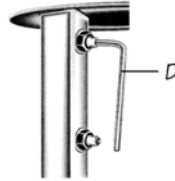

fig. 2
- Separate the lower frame "TI" from the upper part "TS" by loosening the four retaining screws with the socket head screw wrench provided "D" (fig.2)